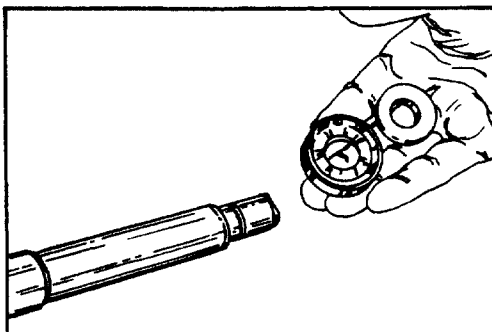

FIGURE 38.
- remove retaining plate** 47. Remove washer (35) and retaining plate (36) from input shaft/wheel tube (33) or upper cover and jacket assembly (37). Discard, if deformed or damaged. See figure 38.